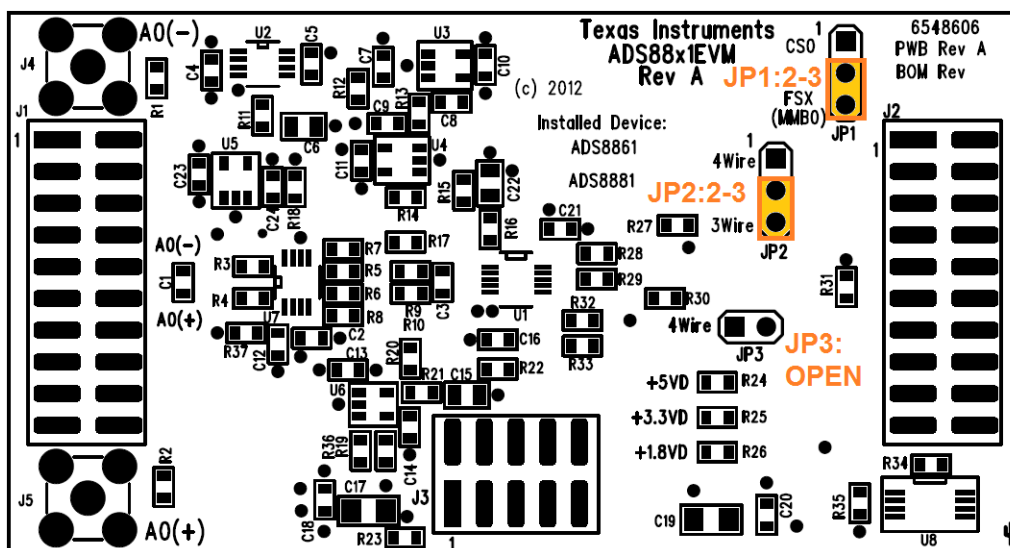

Figure 8. ADS8861EVM Jumper Configuration
3. Set JP1:2–3, JP2:2–3, and JP3:open on the ADS8861EVM, as shown in Figure 8.